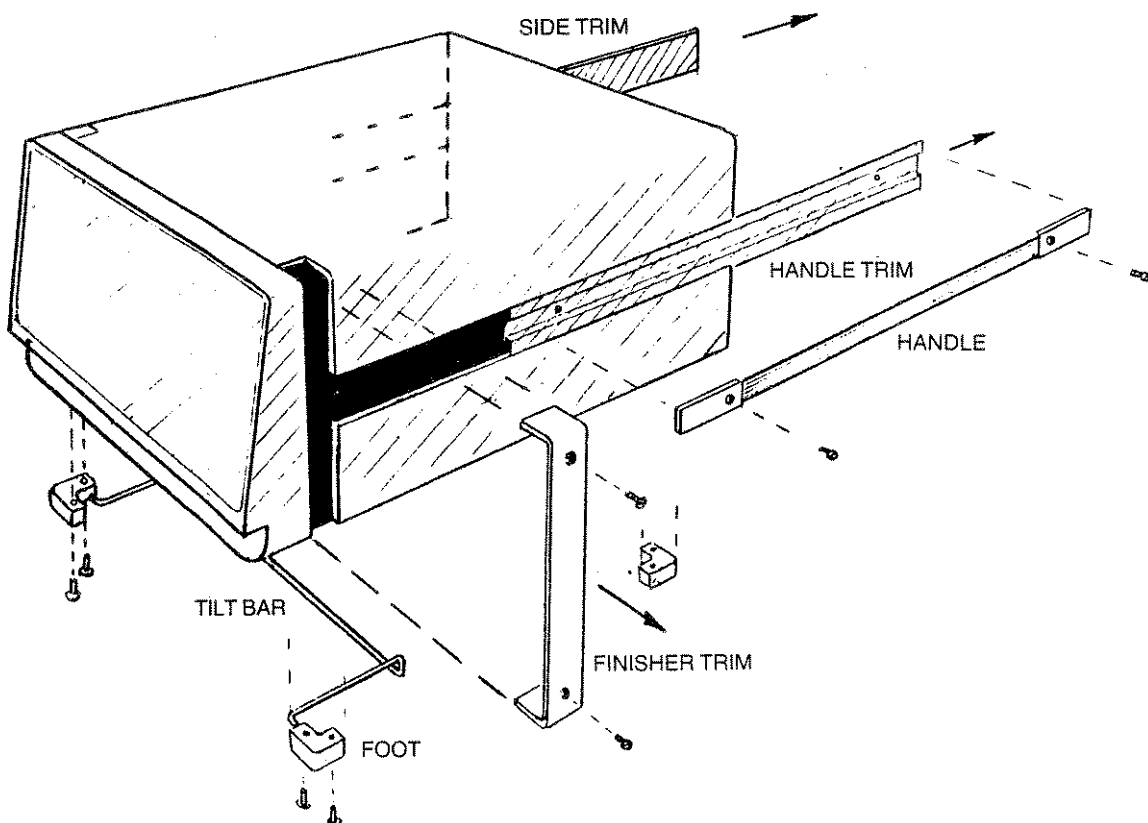

Fig. 2.2 Removal of trims, handle, feet, and tilt bar
1. Remove the following items from the unit, as shown in Fig. 2.2: